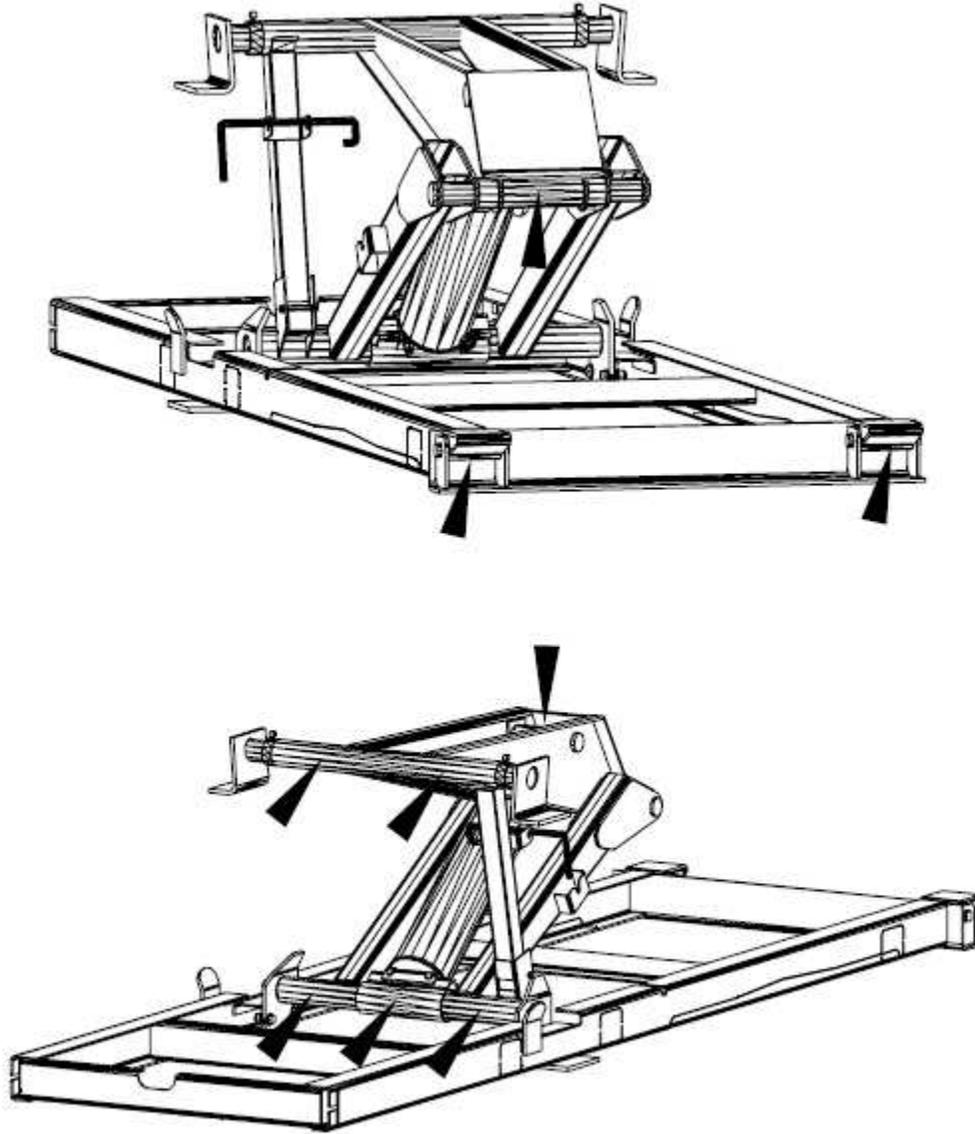

FIGURE 7 MODEL HR-540 / HR-550 GREASE FITTING LOCATIONS
- Install all grease fittings. For grease fitting locations, refer to Figure 7. Torque each grease fitting to 70 in. lb. Grease all grease fittings upon installation.